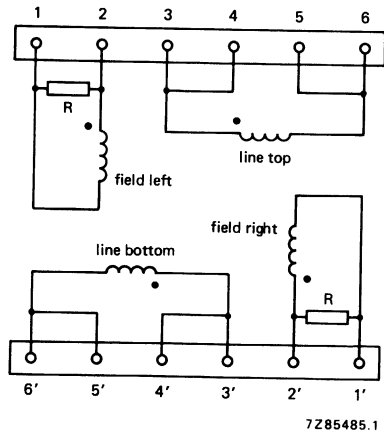
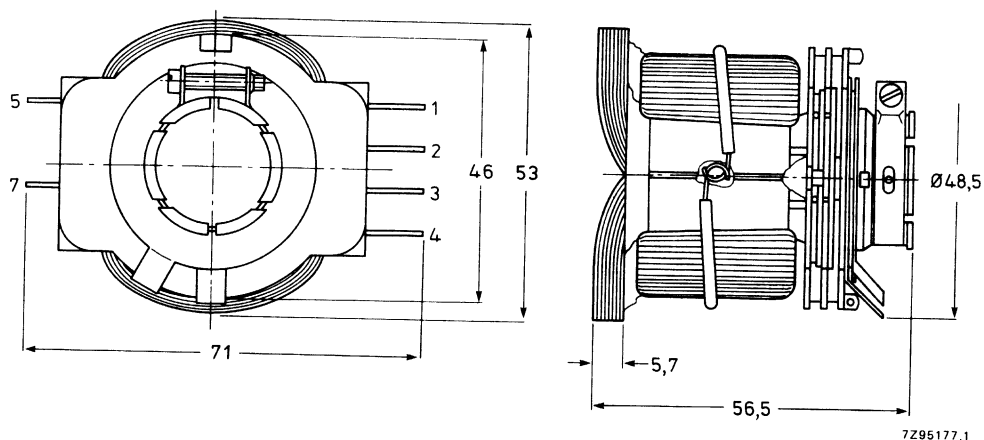

Fig. 2 Diagram of line and field coils; R = 270 Ω . The beginning of the windings is indicated with ●.
Fig. 1 Deflection unit AT1077/01.
If a further improvement of raster geometry is required use can be made of correction magnets*, which must be fitted to mounting posts (1). The unit has solder pins for connection. The pin numbering in Fig. 1 corresponds to that in Fig. 2.
The unit is provided with solder pins for connection. The pin numbering in Fig. 1 corresponds to that in the diagram (Fig. 2).